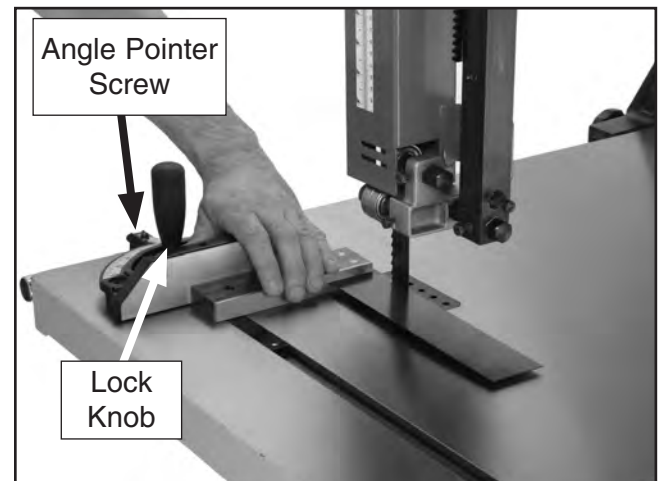

Figure 34. Example of squaring miter gauge to blade.
1. Place one edge of a machinist's square against face of the miter gauge and other against blade face, as shown in **Figure 34**.